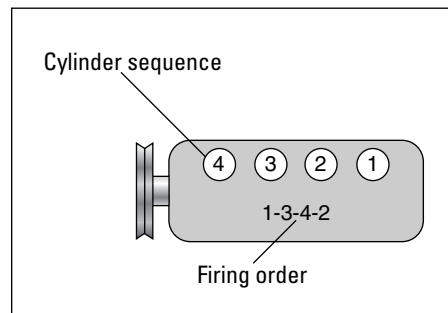

Figure 5-12: The cylinder sequence and firing order of a foreign in-line 4-cylinder engine.
- Some *foreign* automakers reverse the cylinder sequence. As you can see in Figure 5-12, the #1 cylinder is at the rear, near the firewall. If you have a foreign car and no owner's manual, ask your local dealer where your #1 cylinder is.